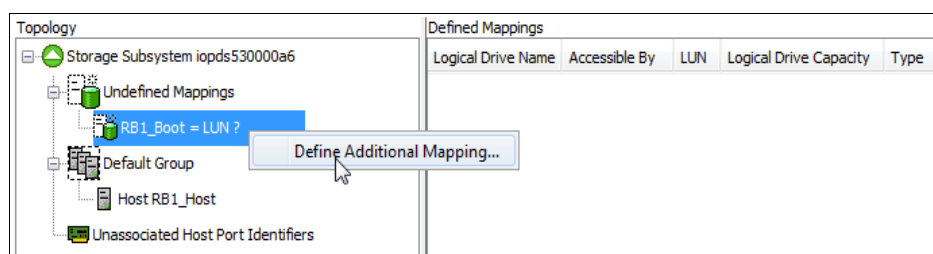

Figure 2-68 Define Additional Mapping
1. After the host is created, we can now assign the LUN to the host. To do it, you need to right-click the LUN that we created, and click **Define Additional Mapping**, as shown in Figure 2-68. In our example, it is RB1_Boot = LUN ?. The reason it appears in this way is because it does not have a LUN assigned to it.